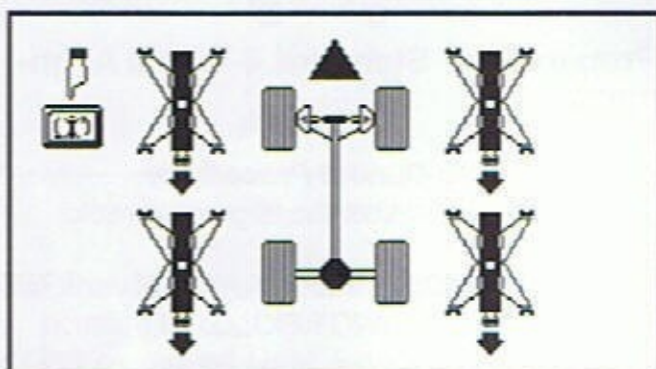

Figure 2-15
2. Complete *Setup Procedure* as instructed in "Setup Module" section of this manual. The "Knob Down" LED on the left-front wheel units will light and the screen shown in Figure 2-15 will appear in display.